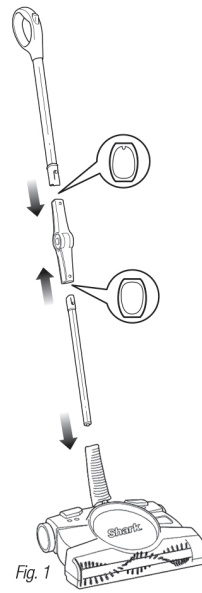

Fig. 1
- 1 Assemble the upper and lower handle into the elbow joint to form the Shark® Backsaver™ folding handle. Then insert it into the top of the lower handle. (fig. 1)